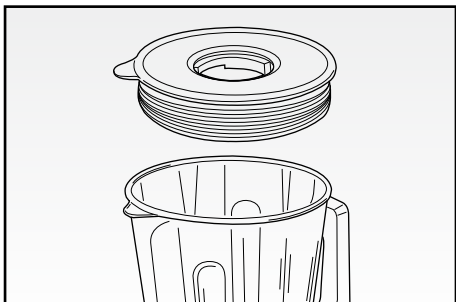

Fig. 10
- Mount the lid (L) onto the blender (I) and press it slightly downwards up to the complete insertion (Fig. 10).
- Insert food previously prepared through the lid hole (L), without exceeding the max. level indicated on the blender (I), and then place the plug (M) onto the lid (L), by pressing it slightly downwards and rotating it counter-clockwise until it locks.
- Switch the appliance on by rotating the dial (C) to speed "1". Increase the speed according to requirements. The appliance is also equipped with pulse mode by rotating dial (C) counter-clockwise to position "P". For best results, keep pressed for a very short period (2/3 seconds).